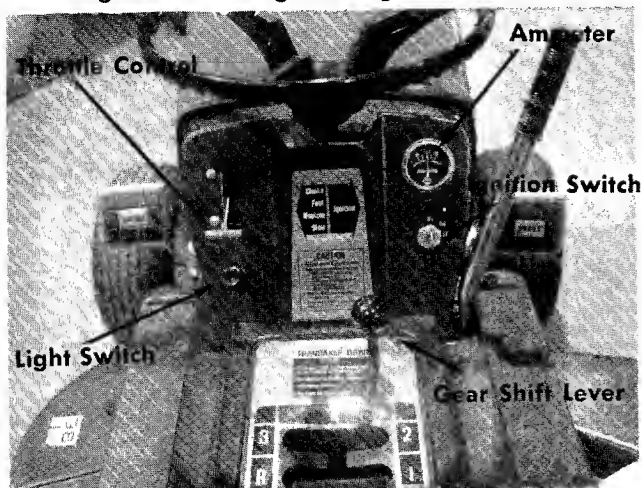

FIGURE 7. CONTROLS
- a. **Throttle control.** The throttle control is used to regulate the engine speed and choke the engine. The engine should be operated from $\frac{3}{4}$ to full throttle when operating the cutting deck or snow thrower (optional). See figure 7.
- b. **Gear Shift Lever.** The gear shift lever is used to shift into one of three FORWARD GEARS, NEUTRAL or REVERSE. See figure 7.
g. Ammeter. The ammeter registers the rate of battery charge or discharge. The ammeter should register on the plus side (+) when the engine is running in the fast position until the battery is completely charged. With a fully charged battery or with the engine idling the ammeter will not show a charge. See figure 7.
h. Light Switch. Pull the light switch out to turn on the lights. The lights will only operate when the engine is running. See figure 7.
Electric Start. See figure 7. Turn the key to the START position to start the engine. When the engine is running, let the key return to the ON position. To stop the engine, turn the key to the left to the OFF position and remove it to prevent accidental starting.
Step 4. Set the throttle control in the CHOKE position. See figure 7.